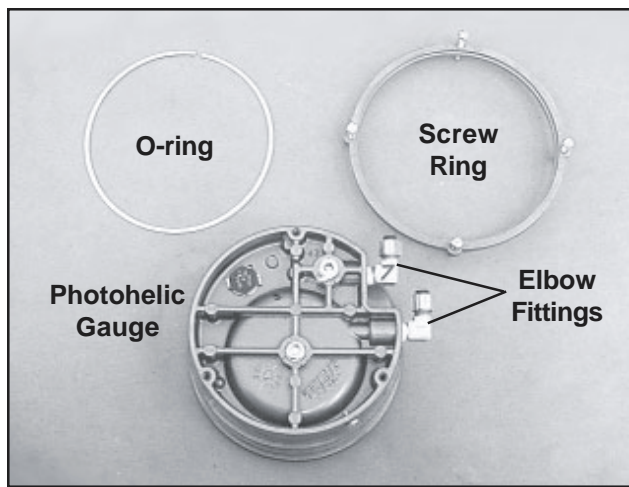

Figure 75. Photohelic Gauge, Mounting Components & Elbow Fittings
11. With a 7/16 in. open-end wrench, remove both elbow fittings from the gauge and retain them for installation (Figure 75).
1. Install both elbow fittings into the new gauge (Figure 75).